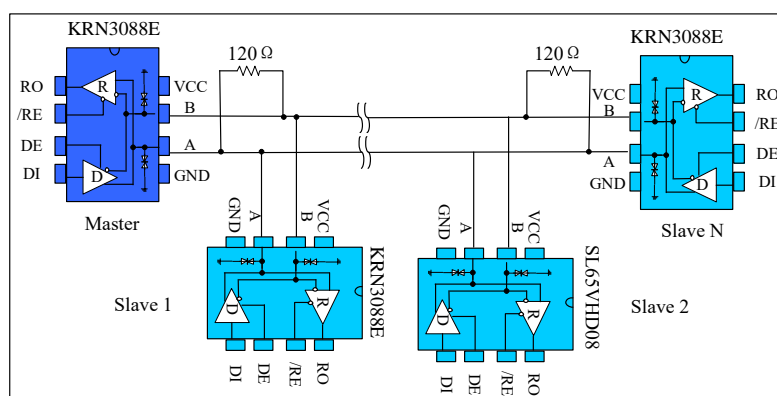

Fig 9 Bus type RS485 half-duplex communication network
**4.1 Bus Networking:** KRN3088E RS485 transceiver is designed for bidirectional data communication on multi-point bus transmission line. Fig 9 shows a typical network application circuit. These devices can also be used as linear repeaters with cables longer than 4,000 feet. In order to reduce the reflection, terminal matching should be carried out at both ends of the transmission line with its characteristic impedance, and the length of branch lines outside the main line should be as short as possible.